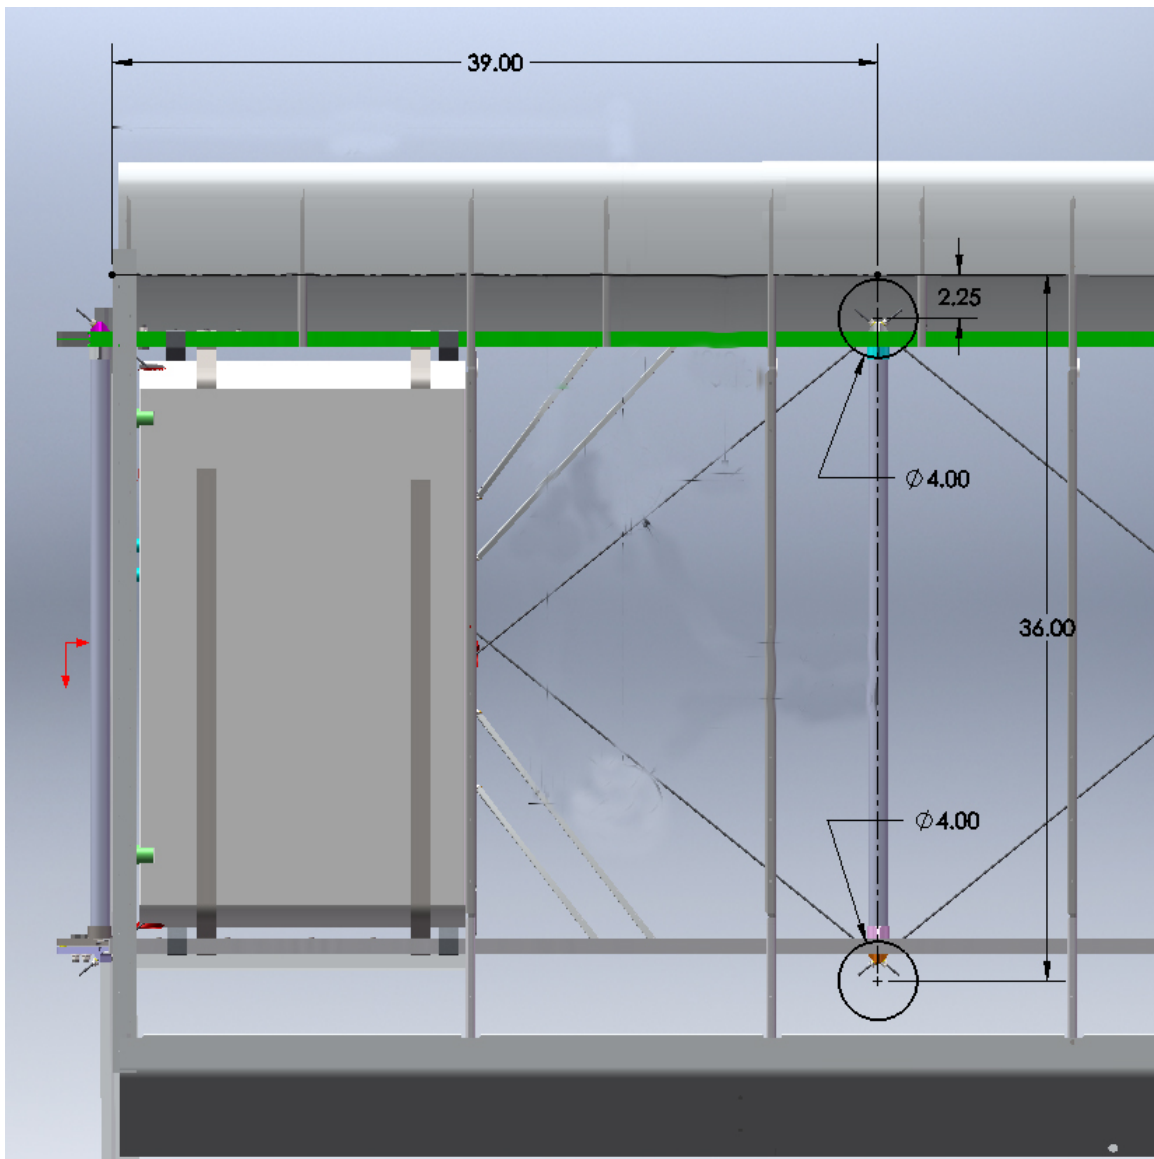

Figure 0 - Inspection Hole Locations
6. Reference Figure 0 and Install two inspection holes located outboard of the second rib on the underside of the wing (applicable to CC11-00184 and on). Locate two holes approximately 39" outboard of the wing root edge and 2.25" and 36" aft of the edge of the LE skin. Using masking tape to keep wing clean from excessive adhesive, do the following for each inspection hole: